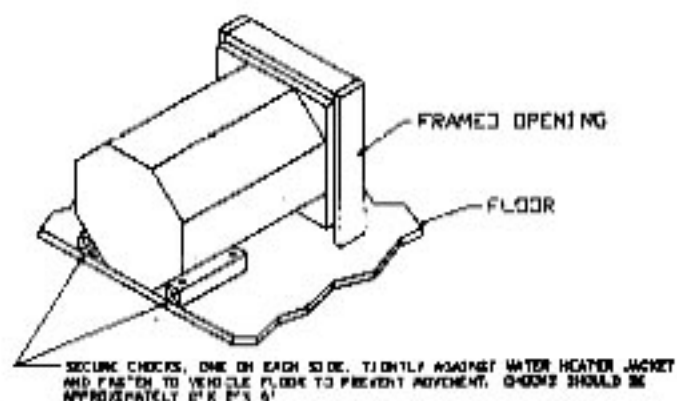

Figure 1A
C. Install checks, one on each side of water heater, as illustrated in Figure 1A.
G. Insert door frame into control housing and secure with four (4) No. 8-16 x 3 1/2" screws provided.